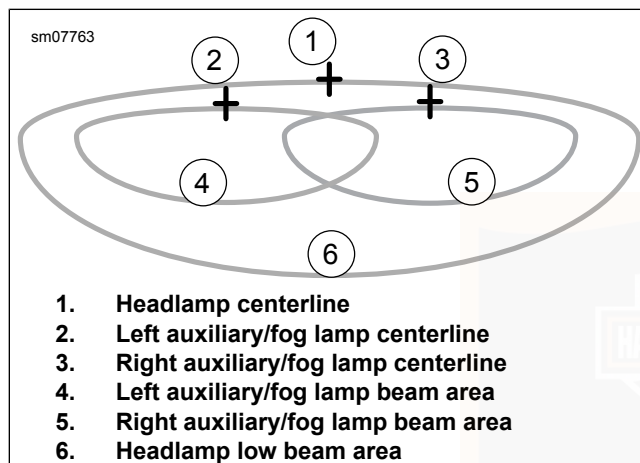

Figure 99. Headlamp Pattern: LED Type with Auxiliary/Fog Lamps
4. See Figure 99. Mark the auxiliary/fog lamp horizontal and vertical centerlines (2, 3) on the wall.
7. Turn on the headlamp low beam and cover both the headlamp and the right auxiliary/fog lamp. Adjust the left auxiliary/fog lamp so the entire high intensity zone (4) is below the centerline as shown in Figure 99.